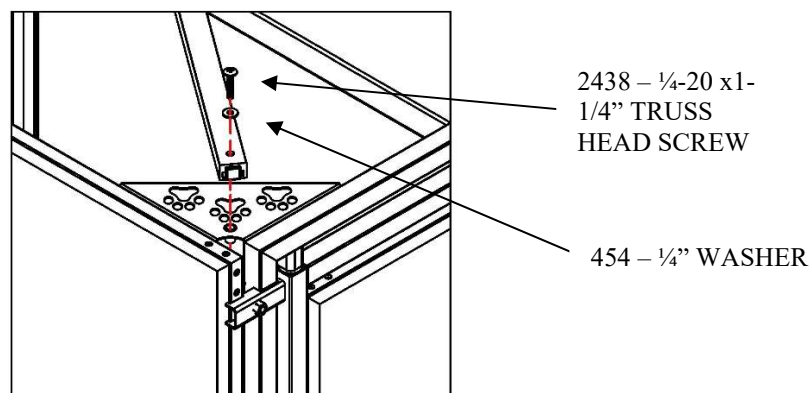

Figure 19
3. Next, loosely attach the brace to the threaded insert in the front gusset. See Figure 19.